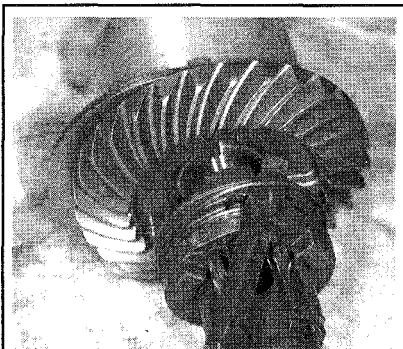

Fig. 65 Remove the spring from the clutch dog
- ◆ See Figures 65, 66, 67, 68, 69, 70, 71, 72, 73, 74, 75 and 76